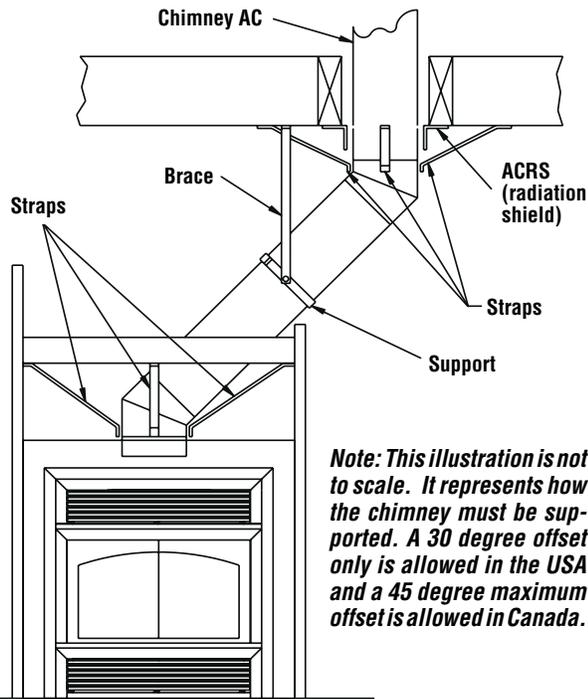

Figure 25
1. Install the first elbow. Turn it in the required direction. To lock it in place, turn 1/8 of a turn. Fasten the straps attached to the elbow to the surrounding framing using nails or drywall screws (**Figure 25**).